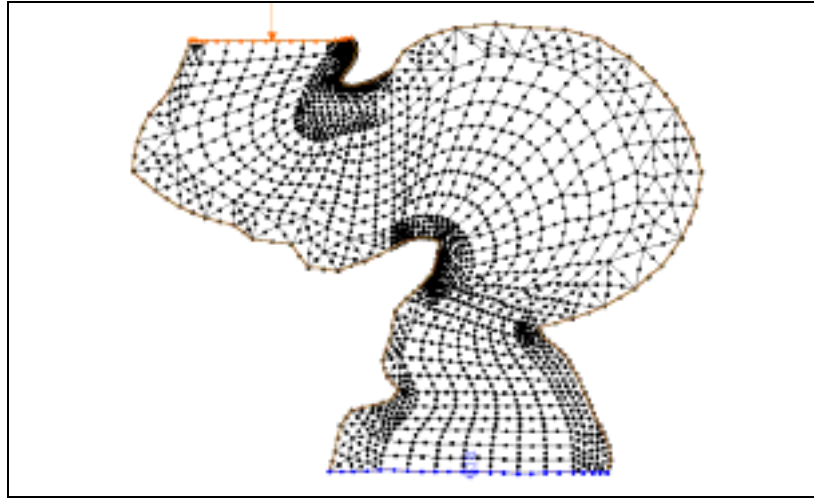

Figure 5-1. The mesh contained in *stmaryout.fil*.
2. Open the file *stmaryout.spr*, either the one saved from lesson 2 or the one supplied in the *tutorial\tut5* directory. The display will refresh with the mesh as shown in Figure 5-1.